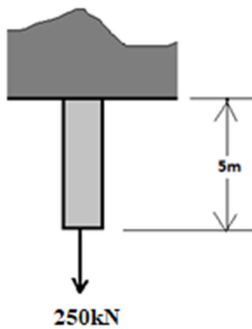

Figure 1
- b) A mild steel structure is used to support a load of 250 kN as shown in figure 1 below.